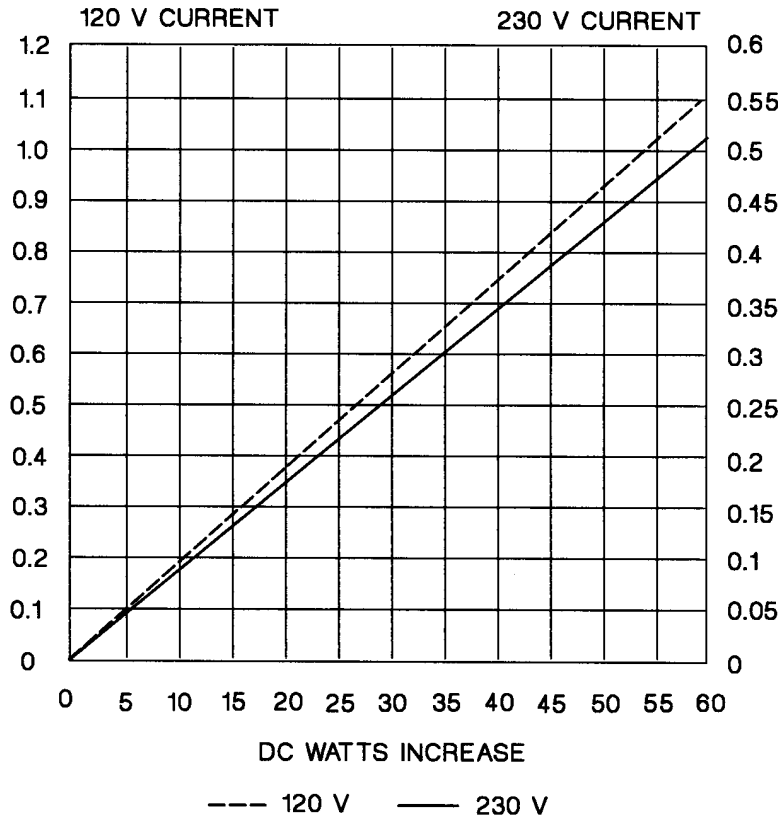

Figure 3-1. Line Current (Amperes)
The dc wattage of the added option is used with Figure 3-1 to determine the additional line current for the system unit. If the dc wattage of the added option exceeds the wattage in Figure 3-1, break it into two or more groups. If the line voltage is other than 120 V or 230 V, the line current can be adjusted to the new line voltage by the following equation:
If you are working in kVA, multiply the line current found in Figure 3-1 by its respective line voltage to get kVA.
- Divide the dc wattage found in Figure 3-1 by 0.62, to get the ac input watts to add to the Typical Heat Output in Table 3-5 on page 3-9. To convert ac input watts to BTU/hr, multiply watts by 3.41.